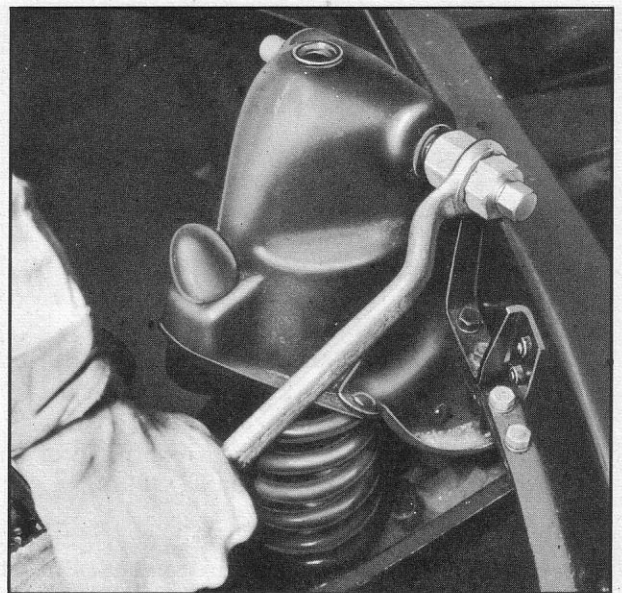

Fig. 20—Removing Upper Control Arm Shaft
7. Remove seals from ends of upper control arm shaft and using Upper Control Arm Shaft Remover and Replacer J-2958 (fig. 20) remove upper control arm shaft from spring housing from rear to front.